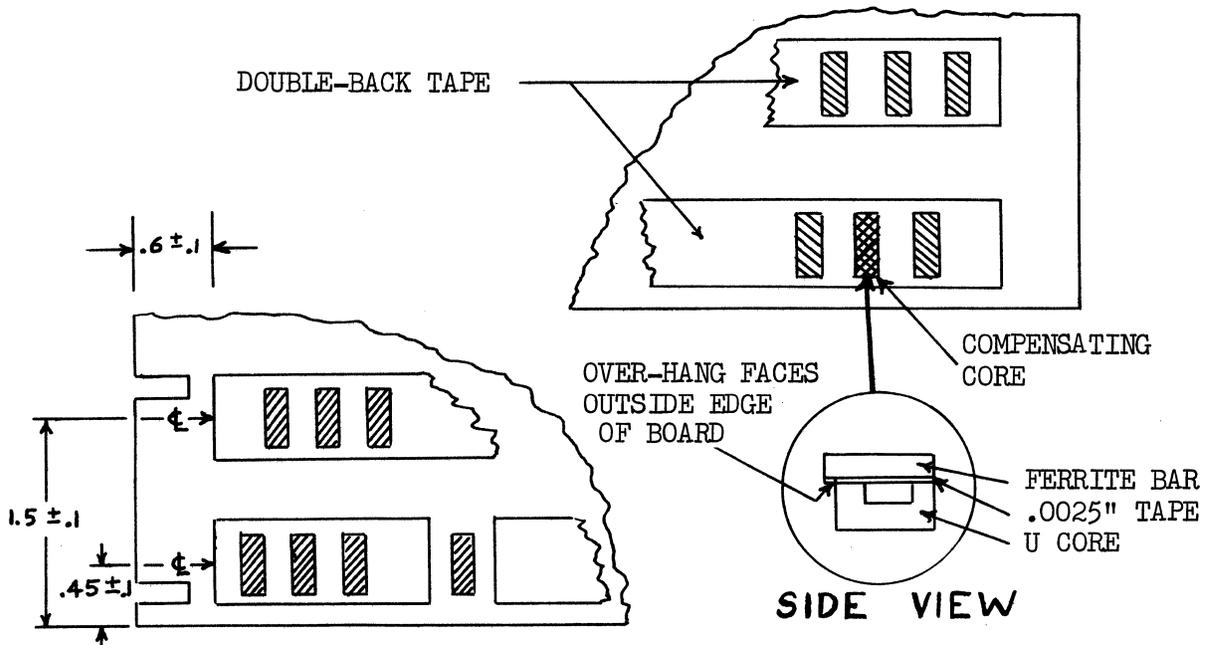

Figure 3. U Core Mounting
- \*13. Place ferrite bar with mylar tape squarely on top of U core (see Figure 3) keeping inside edges flush. (Caution: Loctite sets within 10 seconds).